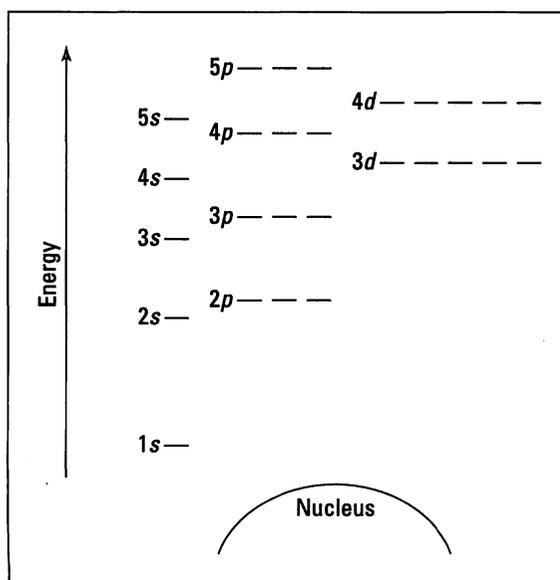

Figure 3-5:
Figure 3-5 is a blank energy level diagram you can use to depict electrons for any particular atom. Not all the known orbitals and subshells are shown. But with this diagram, you should be able to do most anything you need to. (If you don't have a clue what orbitals, subshells, or all those numbers and letters in the figure have to do with the price of beans, check out the "Quantum mechanical model" section, earlier in this chapter. Fun read, lemme tell ya.)
- When there's more than one subshell at a particular energy level, such as at the 3p or 4d levels (see Figure 3-5), only one electron fills each subshell until each subshell has one electron. Then electrons start pairing up in each subshell. This rule is named *Hund's Rule*.